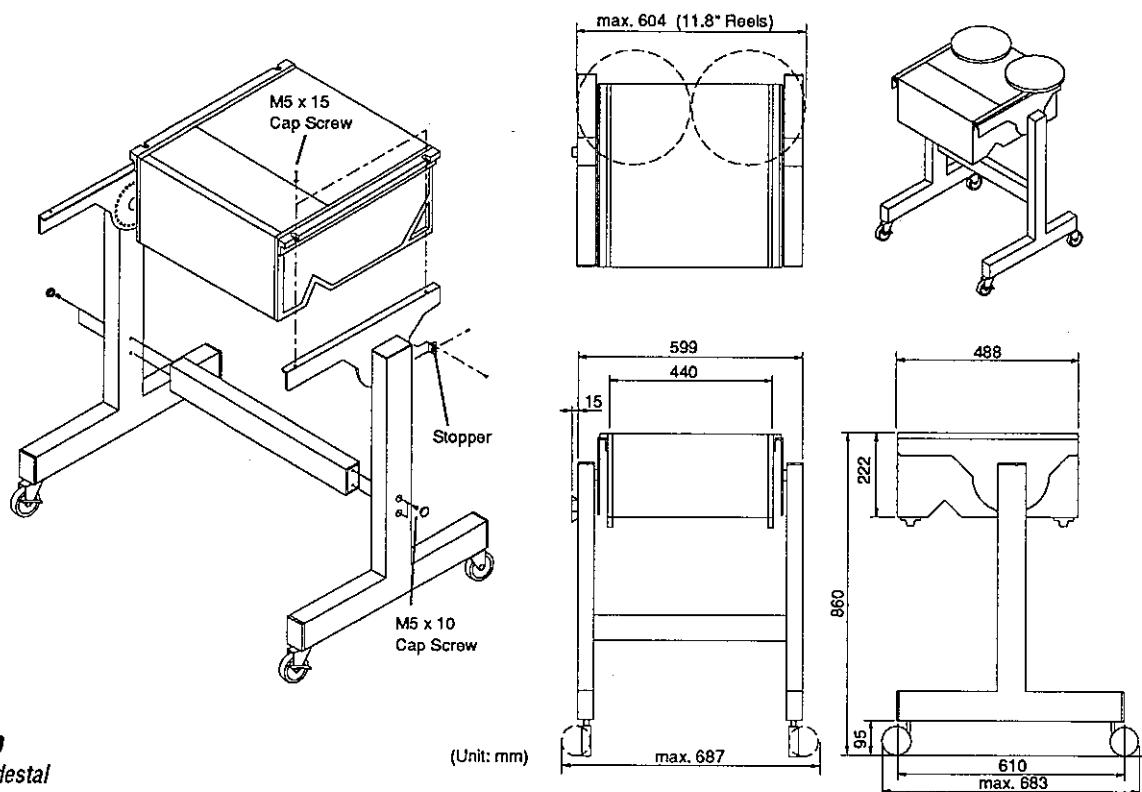

Figure 5-10
(Refer to **Figure 5-10**)
3. Assemble the stand using the M5x10 Cap screws as shown in **Figure 5-10**.
4. Assemble the MX-55 to the stand with the M5x15 Cap Screws and Washers as shown in **Figure 5-10**.